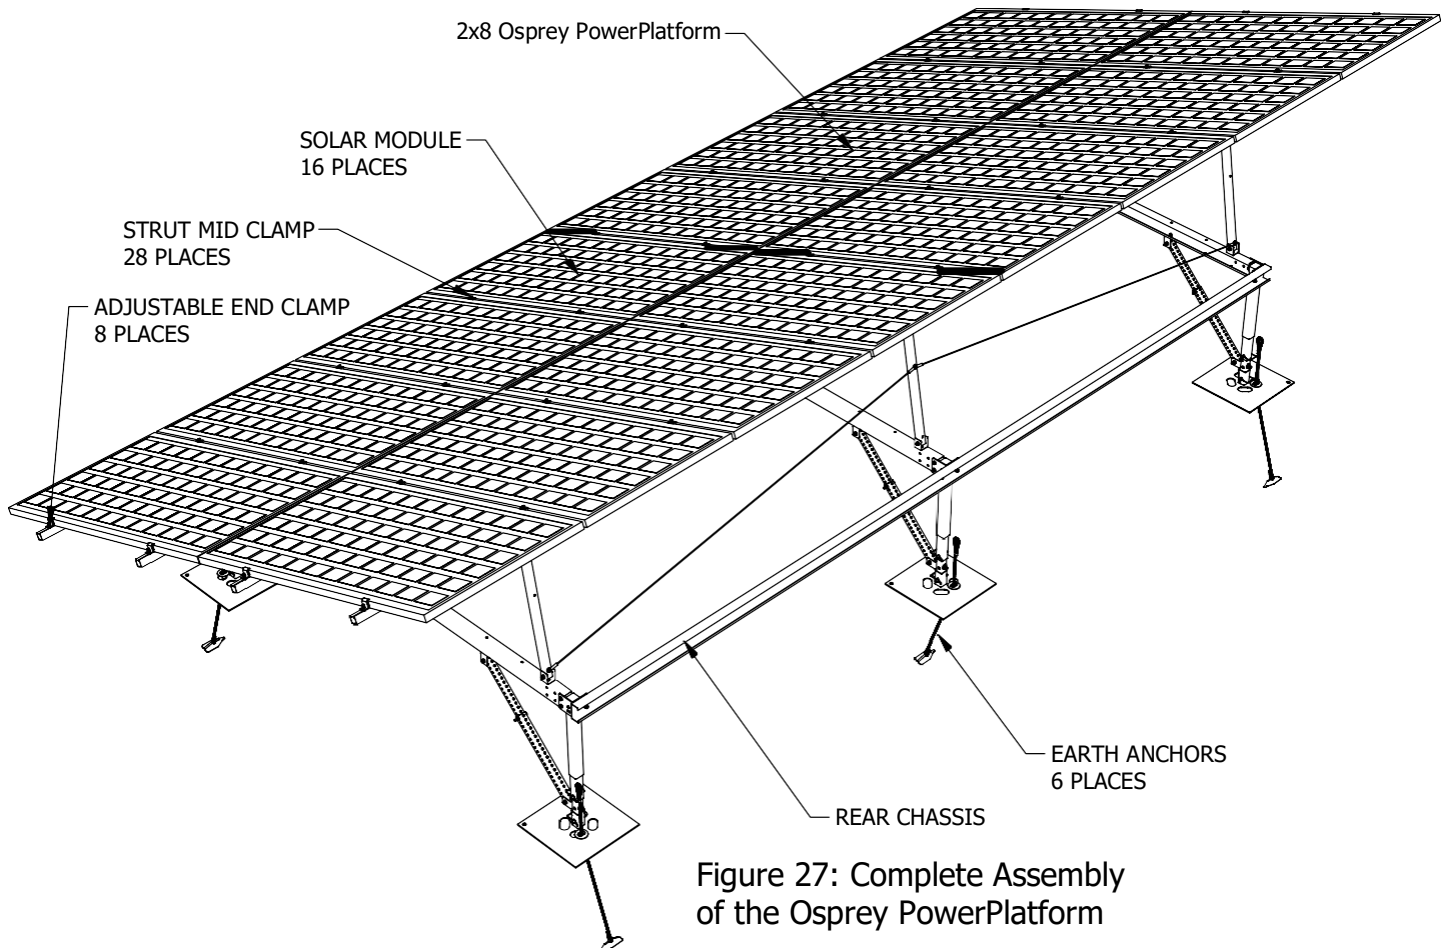

Figure 27: Complete Assembly of the Osprey PowerPlatform
14. Refer to Figure 27 on next page of the completed Osprey PowerPlatform.